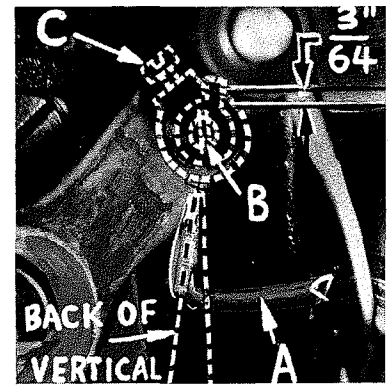

Fig. 7
Insert spreader (A, Fig. 7) in its holder. Screw (B, Fig. 7) holds spreader in its holder, and permits spreader to be pushed in or out or turned around its shank. Screw (C, Fig. 7) on collar holds spreader holder in the shaft, and allows holder to be rotated or adjusted laterally.
**Preliminary Setting:** When spreader is at the right end of its stroke, spreader holder should be set to position spreader shank back of vertical (Fig. 7). Top end of spreader shank should extend about  $\frac{3}{64}$  inch above holder (Fig. 7).